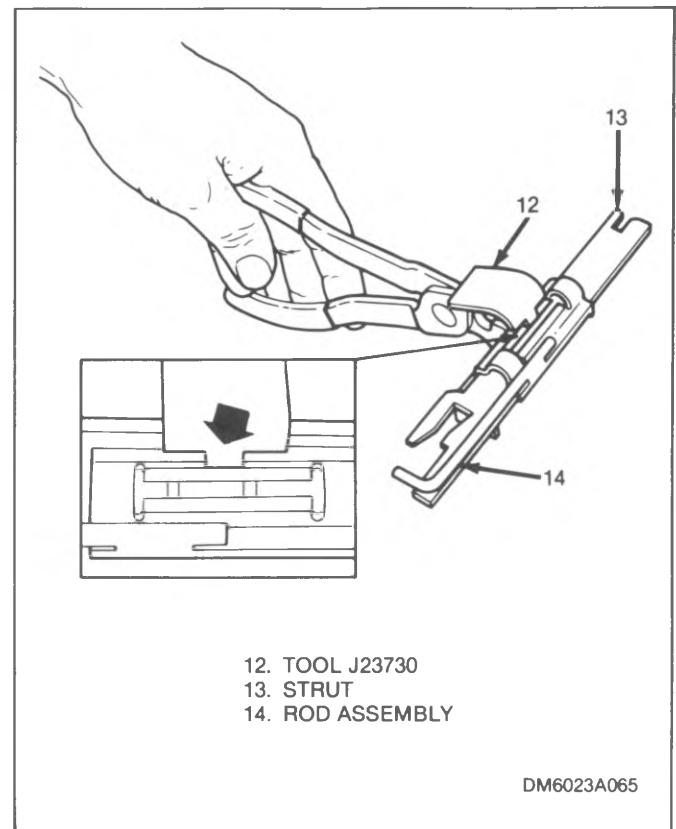

Figure 4-21. Unlocking Adjuster Assembly
3. Pull brake shoes (5 and 6) from under hold-down springs (2) and remove strut and adjuster assembly (3), parking brake lever (7) with shoe retaining spring (4) attached.
4. Remove shoe retaining spring (4), separate shoes (5 and 6) and remove strut and adjuster assembly (3).
5. Remove parking brake lever (7) from trailing shoe (6).
6. Position tool J23730 (12) on strut and adjuster assembly (see figure 4-21) and press down on adjuster locks.
7. Work rod assembly (14) free of adjuster locks on strut (13).
8. When both adjuster tangs are clear of the rod assembly (14), slide the rod off the lever.